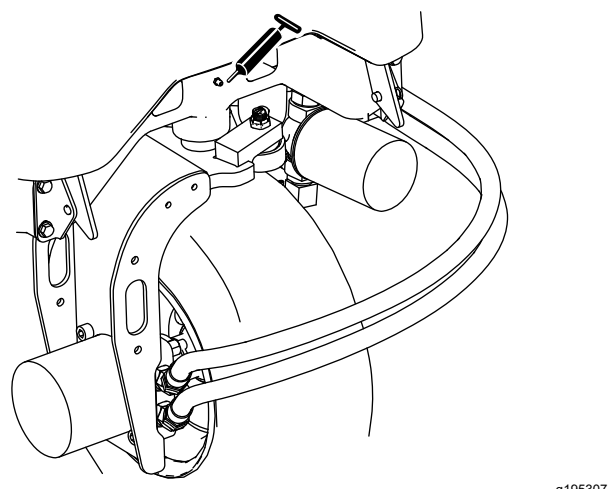

Figure 36
- Pivot de direction (Figure 36)